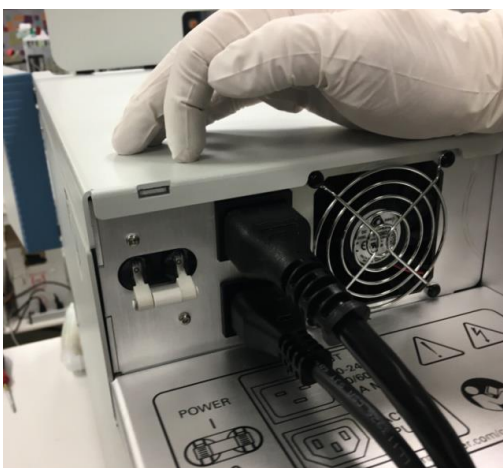

Figure 89: Powering off the mass spectrometer
- 2) Push the power button at the back of the instrument down to the off position to power off the mass spectrometer. See Figure 89.